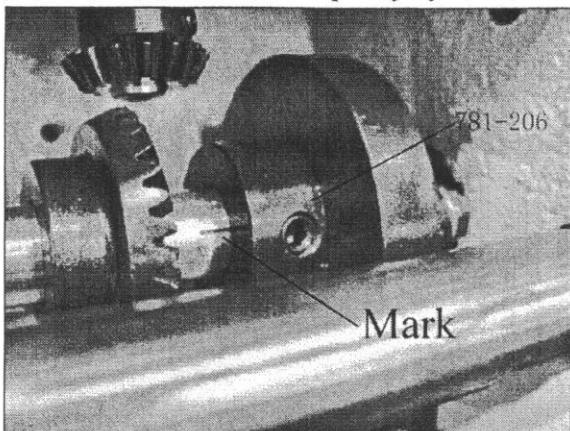
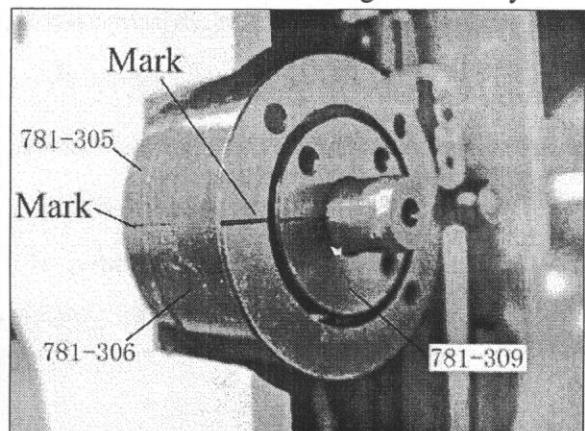

Fig.10
Fig.11
4.2 Adjusting the exchange of needles (Fig.10、Fig.11)
- Adjust the cam (781-206), till the alignment mark on the side of cam (781-206) is in alignment with the alignment mark on the main shaft. (Fig.10)
- Loosen 2 screws on sprocket wheel (781-302), turn the outer flange (781-306) till the alignment mark on its surface is alignment with the alignment mark on the front flange (781-305). Retighten 2 screws on sprocket wheel (781-302) at last. (Fig.11)
alignment mark on its surface is alignment with the alignment mark on the outer flange (781-306). Retighten 2 screws on sprocket wheel (781-301) at last. (Fig.11)